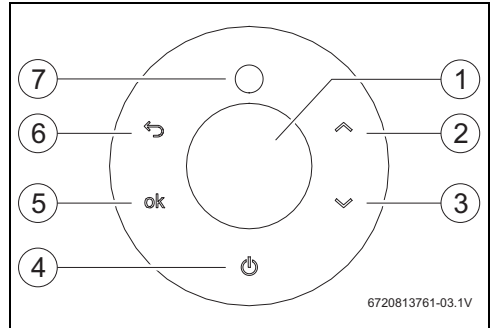

Fig. 38 Touch control display
- ▶ Touch and hold symbol  for more than 3 sec. The LCD display shows the selected temperature. When the burner is on, the display shows symbol  (Fig. 38, [7]).